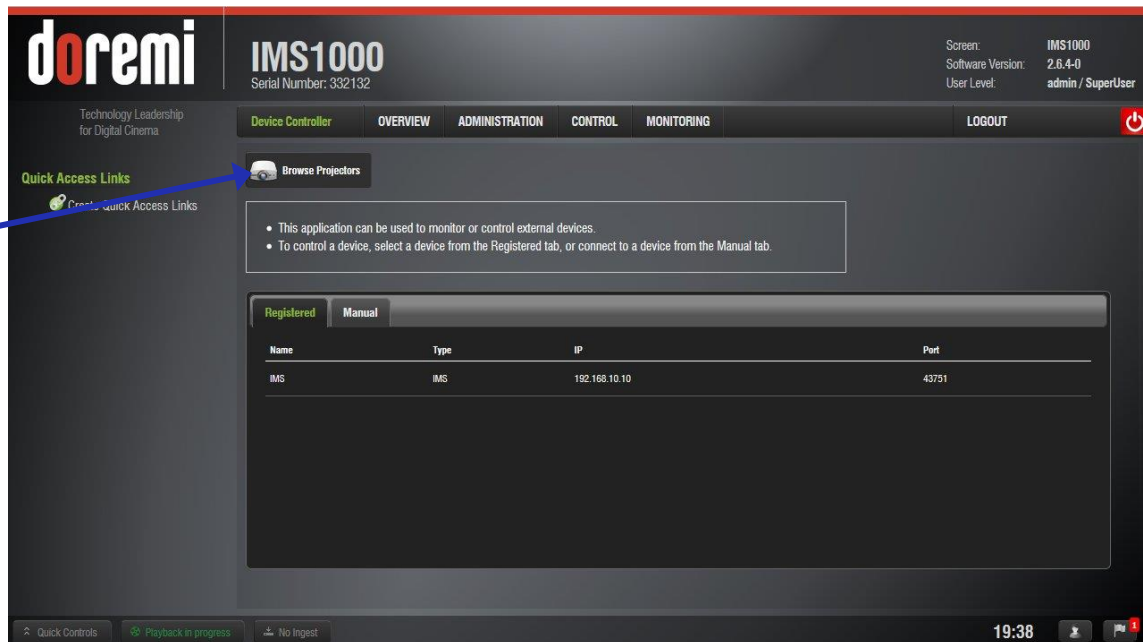
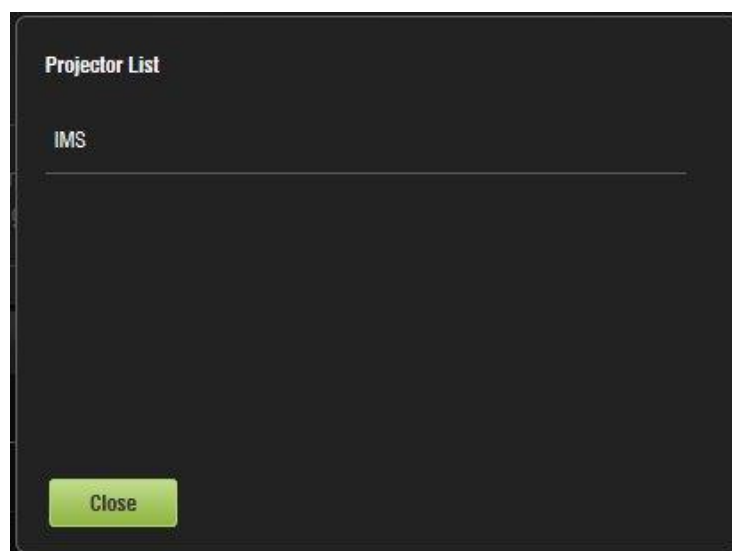

Figure 307: Device Controller
Figure 308: Browse Projector Window
- The following Device Controller window will appear (Figure 307).
- To view existing projectors, click on the Browse Projector button (Figure 307). The following window will appear (Figure 308).